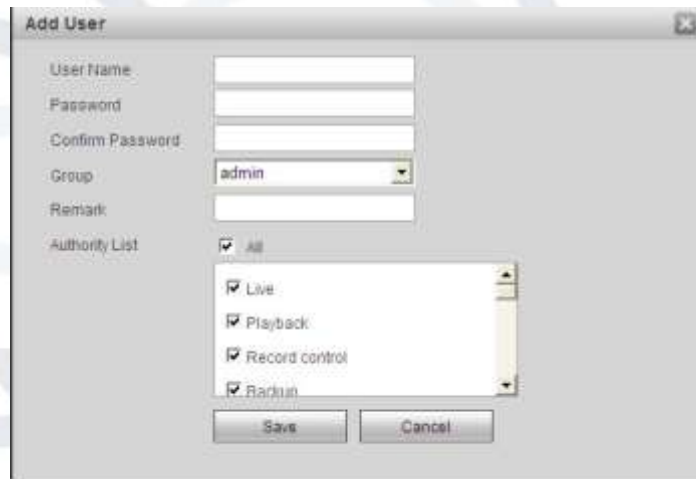

Figure 6-78
**Add user:** This is to add a name to group and set the user rights. See Figure 6-78.